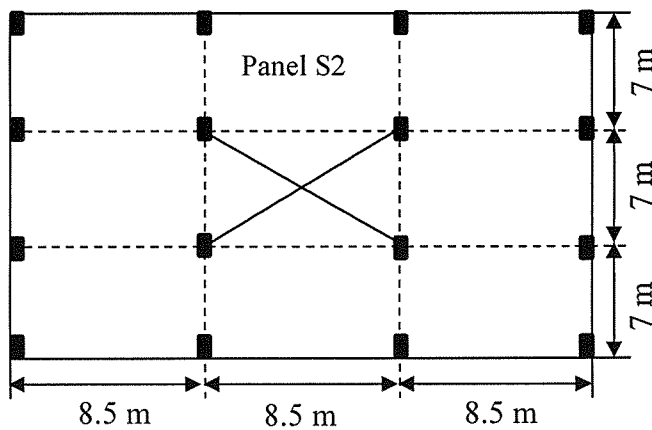

Figure 1. Flat slab floor plan
- a. A 5-storeyed warehouse building is constructed with **flat slab** as shown in **Figure 1**; live load of the warehouse is 6 kN/m^2 . Thickness of the slab could be considered as 250 mm . The concrete strength (f_c') is 25 N/mm^2 . Positive and negative moment coefficients of the panel are 0.35 and 0.65 , respectively. Design the **Slab S2** for **long span** only. [14]